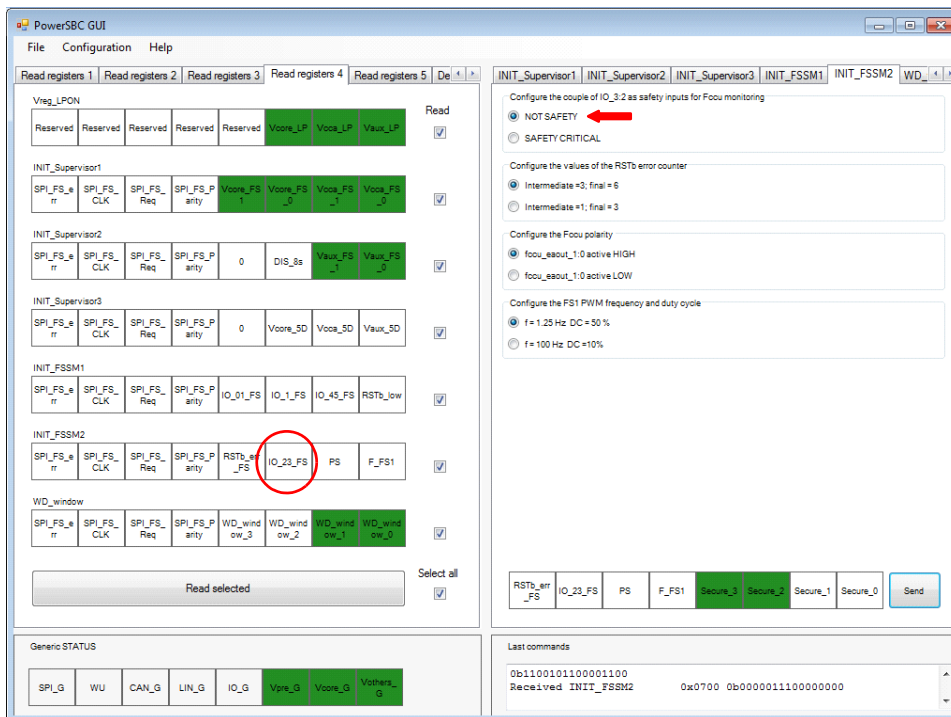

Figure 12. MC33907\_8 GUI Register
- In the right side of the GUI, select **Not Safety** and send command as shown in Figure 12.